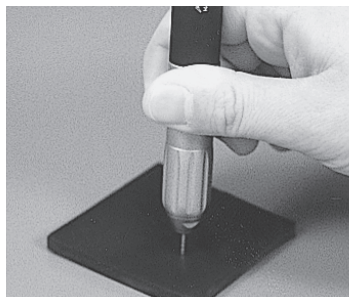

Fig. 7
- 1) As the chuck of the PRESTO handpiece is a push-in type, set the FG burs of  $\phi 1.6\text{mm}$  and push in as shown in Fig.7